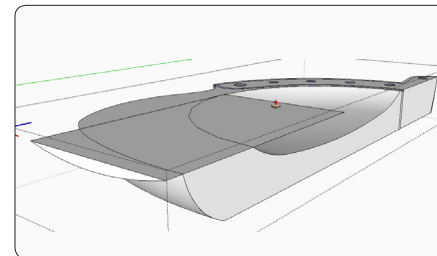

Figure 88. Draw an arc at the front of the seat to define the second scooped-out shape.
Step 5 Draw an arc shape at the front of the seat, as shown in Figure 88. Use